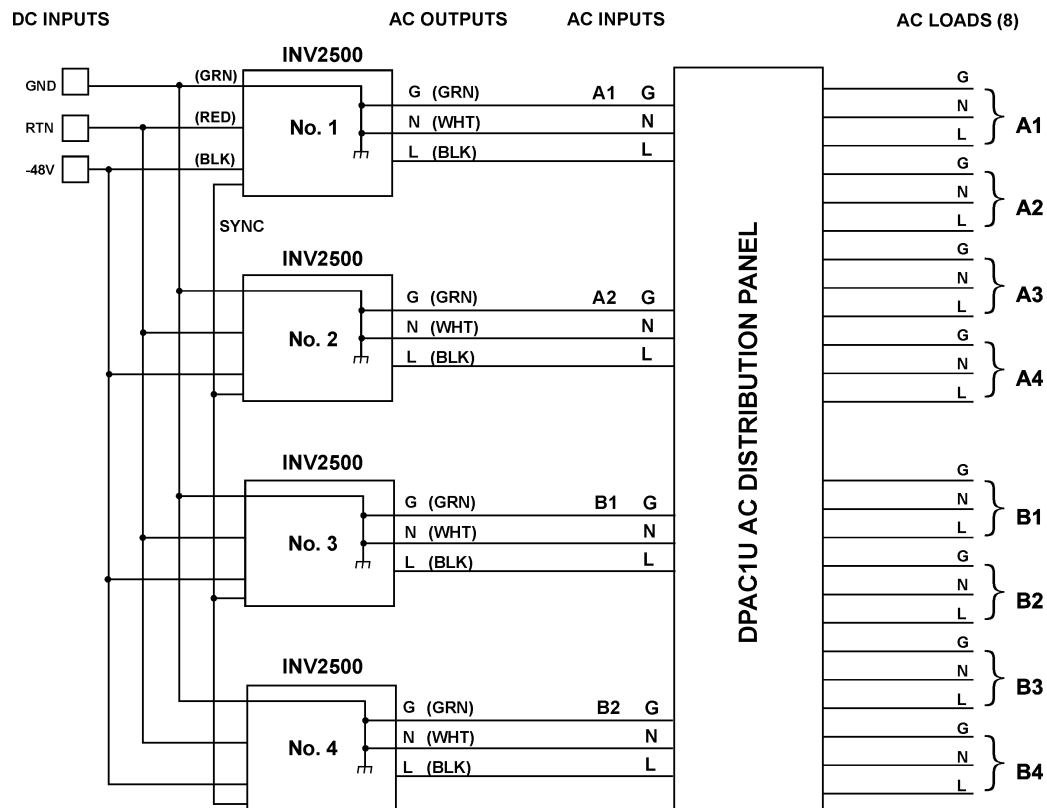

Figure 9. Four INV2500s In Parallel Using AC Distribution Panel.
- 13.3** Figure 9 shows four INV2500s connected in parallel to give 10KVA of AC output. The units are connected to a Unipower Telecom DPAC1U AC Distribution Panel which distributes power to as many as eight AC circuits, each protected by a circuit breaker. Note that for each INV2500 the input ground, output ground, chassis ground and AC neutral output are all connected in common inside the inverter. Contact Unipower Telecom for a data sheet on the DPAC1U or see [www.unipowertelecom.com](http://www.unipowertelecom.com).